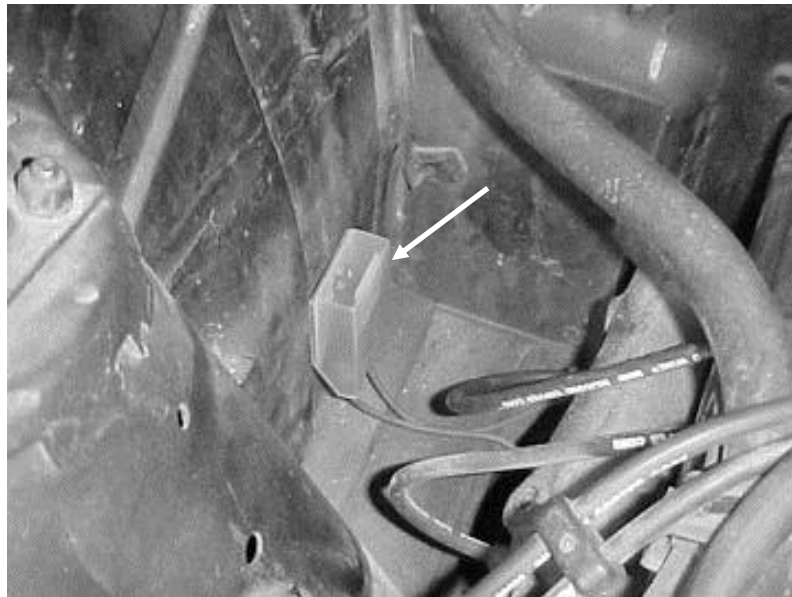

Figure 8.13 Maxi Fuse
8.3.3 Locate the maxi fuse holder and mount it to the passenger side inner fender panel as shown in figure 8.13. Take the starter Red wire (916) and route it to the maxi fuse holder. Cut the wire, crimp on a ring terminal and connect it to a fuse holder terminal. Take the remaining wire that was cut off and crimp on a ring terminal, connect it to the other side of the fuse holder. Take the other end and route it to the starter solenoid and connect it to the large battery terminal.